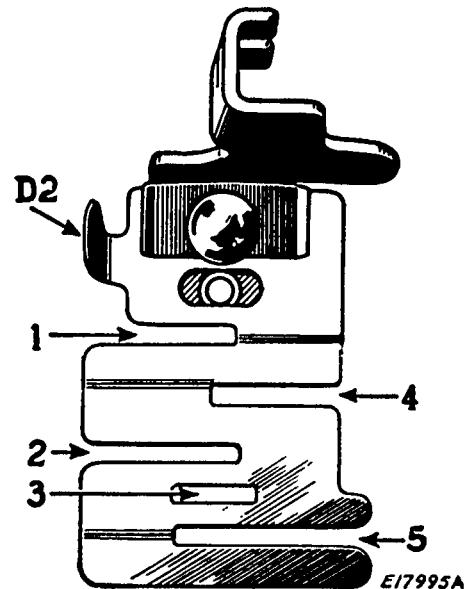

FIG. 51
The distance from the line of stitching to the edge of the material in the slots is regulated by moving the lug **D2**, Fig. 51 to the right or left.
- (1) Insert one of the laces in slot **1** of the edge stitcher and the other in slot **4**, Fig. 51.
- (2) Adjust the lug **D2** until the edges to be joined are caught by the stitching.
- (3) Slightly overlap the edges of the lace while stitching to keep them against the ends of the slots.
- (4) Loosen both thread tensions to avoid puckering of fine lace.
- (1) Cut the piping bias and twice the width of the slot **3** so that it can be folded once.
- (2) Insert the piping with its folded edge to the left in slot **3** and the edge to be piped in slot **4**, **Fig. 51.**
- (1) Place the garment under the edge-stitcher and the tape in slot **1** or **4**, **Fig. 51.**
(1) A wide hem may be stitched evenly on sheets, pillow slips, etc., with the edge-stitcher after the hem has been measured and the edge turned.
(2) Insert the edge in slot **5**, Fig. 51, and adjust the lug **D2** to stitch as close to the edge as desired.
(1) To make a uniform width French seam, insert the two edges to be joined, wrong sides together, in slot **1** or **2** Fig. 51 and stitch close to the edge.
(2) Fold both right sides together and insert the back of the seam in the slot **1** and stitch, allowing just enough margin to conceal the raw edges.